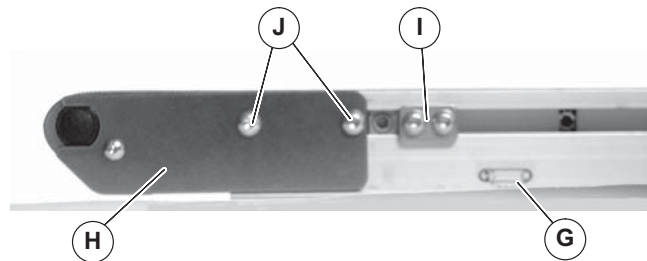

Figure 3
Tension end of conveyor is identified with a label (Figure 3, item G).
8. If equipped with cam tracking assemblies (Figure 3, item I), reposition and adjust belt tracking. Refer to “Conveyor Belt Tracking” on page 10.
Tension end of conveyor is identified with a  label (Figure 3, item G).